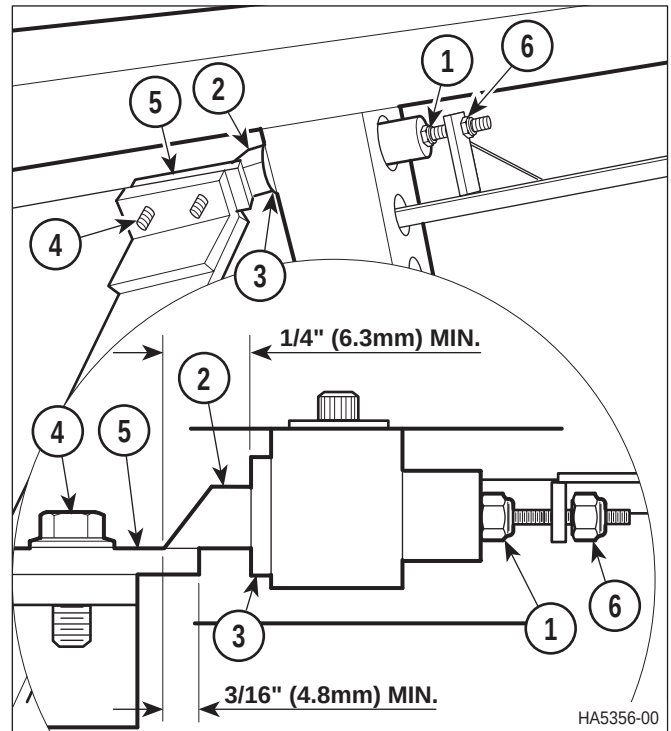

Figure 4-33. Trendelenburg Level Lock Adjustment
- (1) Lower bellows for access (Refer to para 4.3).
- (2) Tighten or loosen nut (1, Figure 4-33) until lockout bolt (2) is 1/4 in (6.3 mm) from sleeve (3).
- (3) Loosen two screws (4); then slide lockout strike (5) in or out until it has a minimum engagement of 3/16 in. (4.8 mm) with lockout bolt (2).